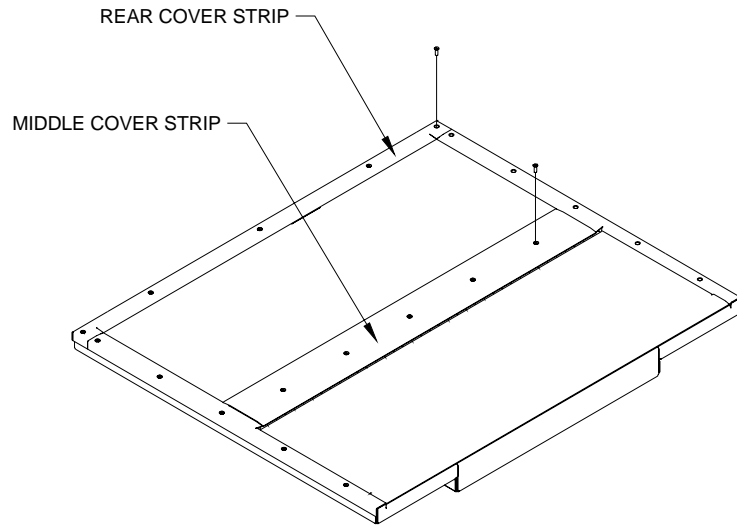

FIGURE 2-3: MIDDLE AND REAR COVER STRIPS
- 1) Refer to **Figure 2-3**. Remove middle and rear cover strips using a Phillips screwdriver and save screws.